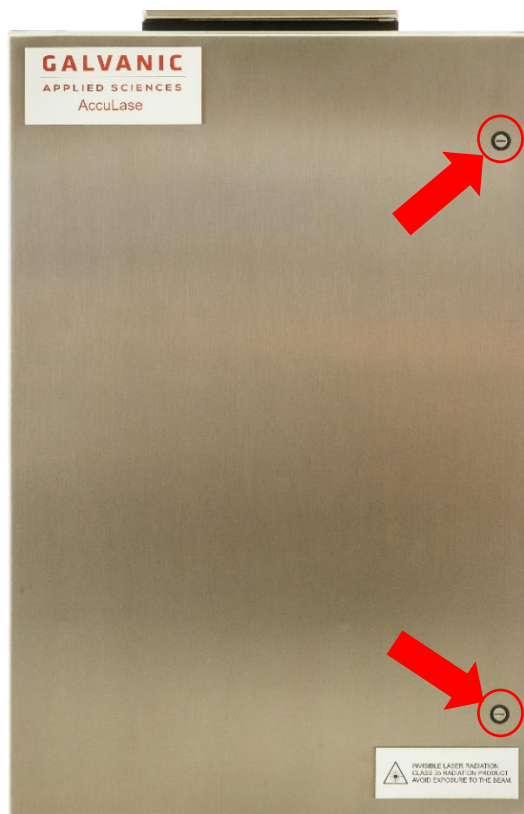

Figure 60: Location of Main Enclosure Door Locks
1. Gain access to the optics / sample cell enclosure by turning the door locks counterclockwise with a large flathead screwdriver, as indicated in Figure 60